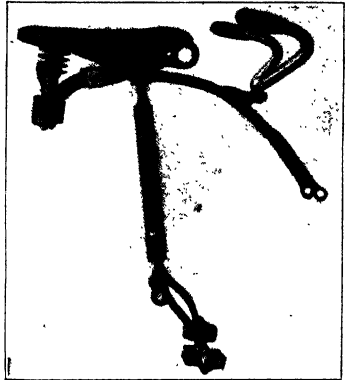

Fig. 59. Simple Passenger Attachment for Motorcycles
**Passenger Attachments.** The motorcycle has become so popular a vehicle that owners wish to take their friends with them, hence has come about the popularity of passenger attachments. Fig. 59